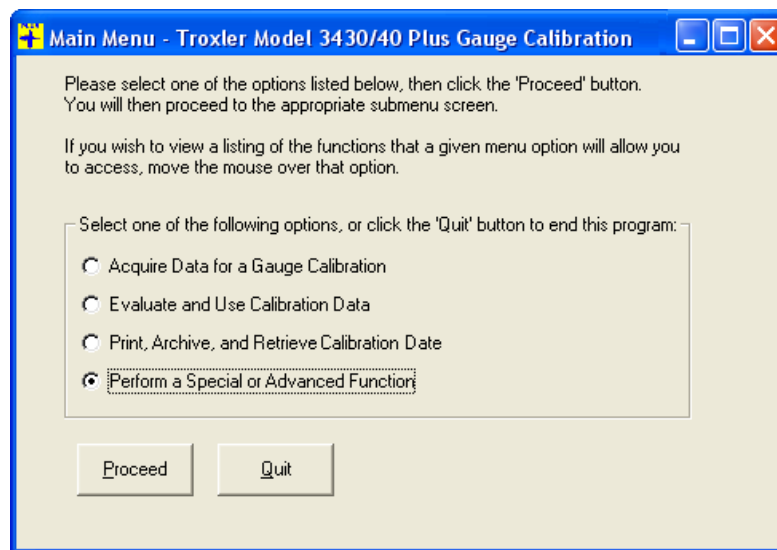

Figure 3–19. Main Menu with Option 4 Selected
1. To generate the *Calibration Accuracy Check Form*, select the **Perform a Special or Advanced Function** option on the **Main Menu**, as shown in Figure 3–19, then click the **(P)roceed** button
2. The **Special Functions Submenu** (see Figure 3–20) is now displayed. This submenu allows access to several special functions. The function to be used at this time is the first available option, **Print an Accuracy Check Form (QA Form) for gauge x**, where *x* is the gauge serial number for the active calibration. Select this option and click **(P)roceed**.